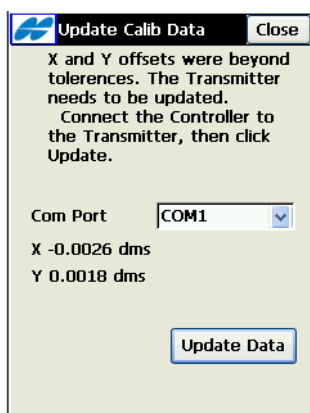

Figure A-20. Field Calibration Results
When the calibration completes, the *Update Calib Data* screen displays the offsets (Figure A-20 on page A-13).
If the offsets were outside the tolerance range, TopSURV will indicate that the transmitter needs to be updated (Figure A-20 on page A-13).
12. On the *Update Calib Data* screen, select the *Com Port* that connects the controller and transmitter and tap the **Update Data** button (Figure A-20 on page A-13).